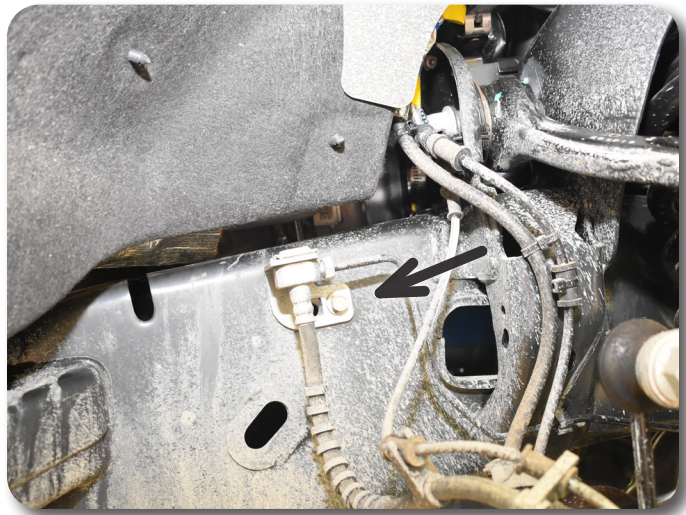

Figure 3
7. Disconnect the front brake line from the frame. Figure 3